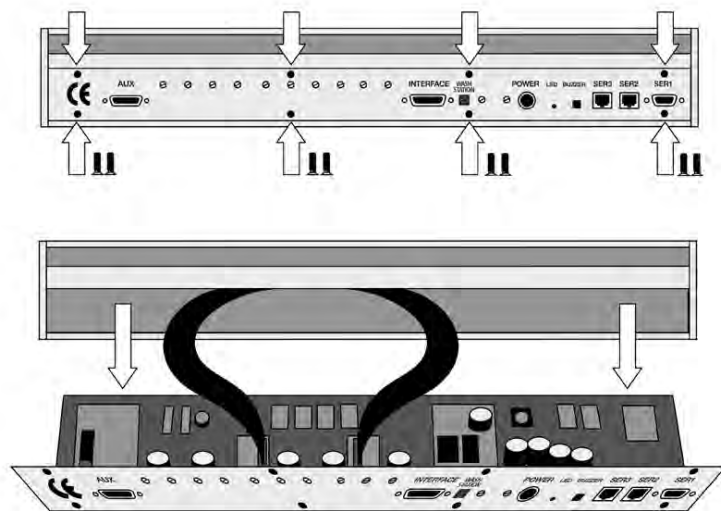

Figure 57. Replacing Control Board, APR Control-LC
1. Follow the sequence shown in Figure 57 to detach and release the Control board from its position inside the X-axis.